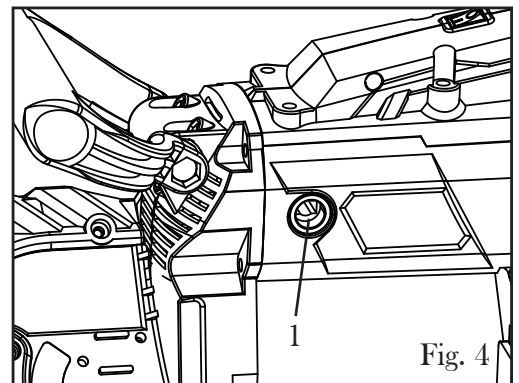

Fig. 4
1. To inspect the brushes, open the carbon brush covers (Fig. 4 - 1) by turning them counterclockwise with a flat-head screwdriver (not included).